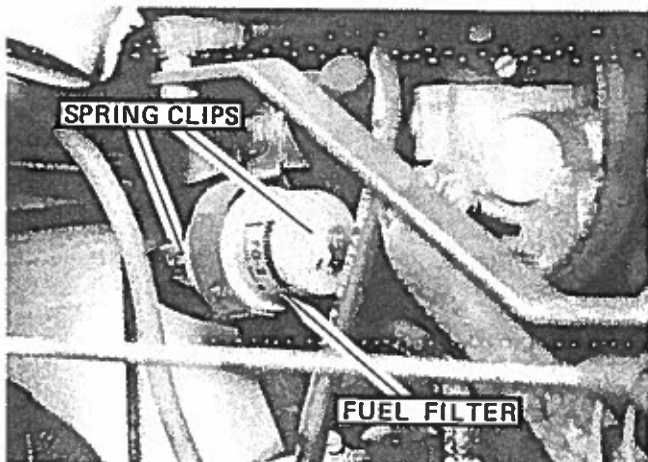

FIGURE 31
To replace fuel filter, shown in FIGURE 31, proceed as follows:
2. Remove spring clips, see FIGURE 31, and slip hose ends off filter.